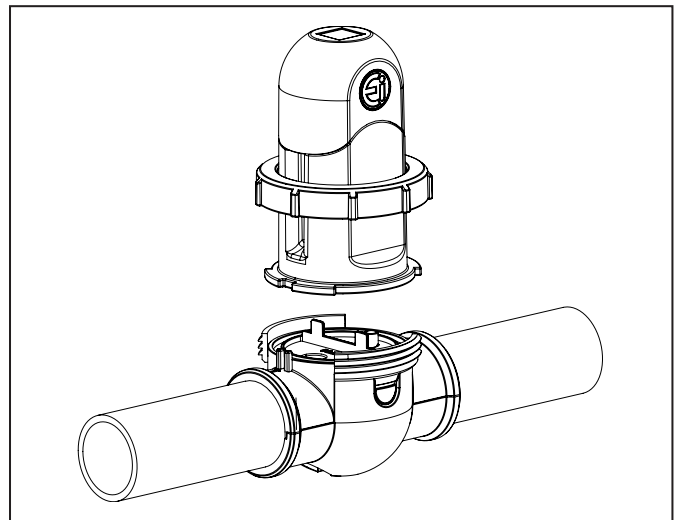

Figure 28. Remove the Cell
6. Remove the cell (see Figure 28).